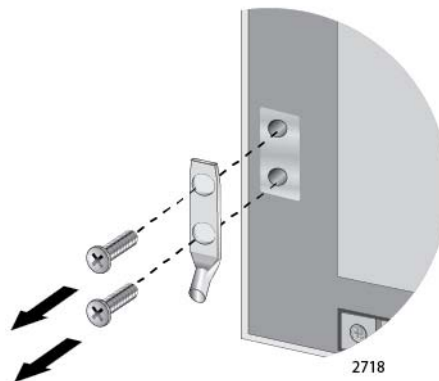

Figure 47. Removing the Grounding Lug
2. Remove the two screws that secure the grounding lug to the rear panel of the chassis, as shown in Figure 47.